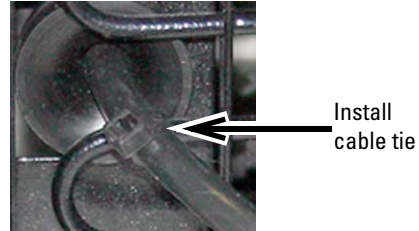

Figure 21: Install cable tie to secure power cord
9. Install the cable tie to secure the power cord that runs through the refrigeration assembly (Figure 21).